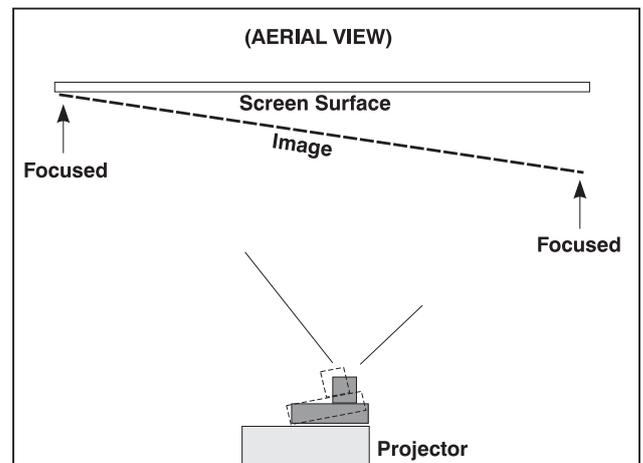

Figure 2-22 Aerial View Illustrating Misaligned Bore-sight
- a. If the right side of the image comes into focus before the lens is completely retracted, then the image focuses in front of the screen. See **Figure 2-22**. To correct this problem, adjust the **Horizontal Bore-sight Bolt** to direct or aim the lens mount towards the LEFT to balance out the left/right edges.